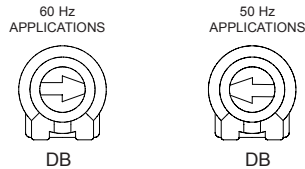

Figure 16. Deadband Settings
Deadband is factory calibrated to approximately the 3 o'clock position for 60 Hz AC line operation. Recalibrate the deadband to the 9 o'clock position for 50 Hz AC line operation. If you hear motor noise (a humming sound), the deadband might be set too high. Turn the deadband trimpot CCW until the motor noise ceases. See Figure 16 for recommended deadband settings.
1. The deadband (DB) must be set approximately at the 3 o'clock position for 60 Hz AC line frequency or at 9 o'clock for 50 Hz AC line frequency. See figure 16 on page 35.